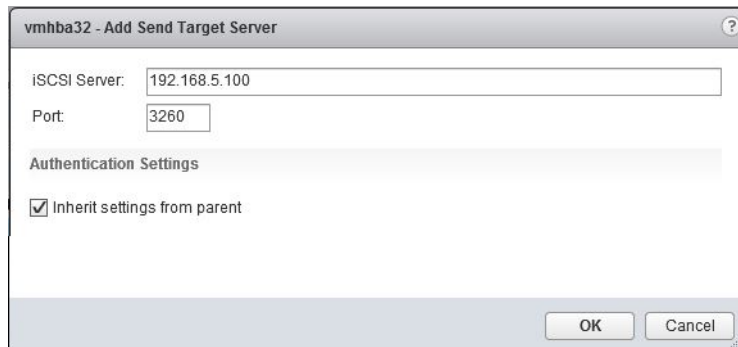

Figure 3-7. Add Send Target Server
1. Complete the **Add Send Target Server** dialog box as shown in Figure 3-7: